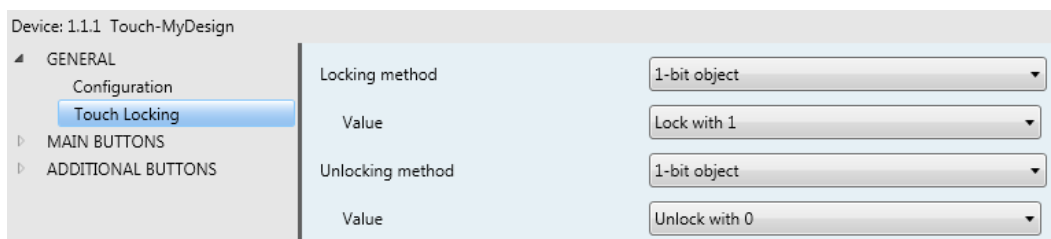

Figure 9 Touch Lock (General)
- **Touch Locking.** This function brings the device the option to enter a *locked* state (which will make the touch buttons ignore user touches) and afterwards leave it depending on certain bus orders. The following fields must be set in the “Touch Locking” screen, which will become visible after enabling this function; see Figure 9.